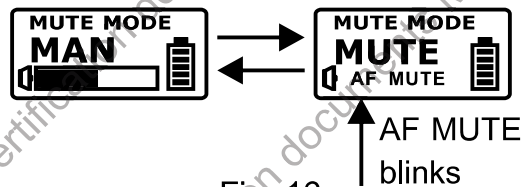

Fig. 16
(2) MAN (Manual): the mute function is controlled by MUTE button. Fig. 16